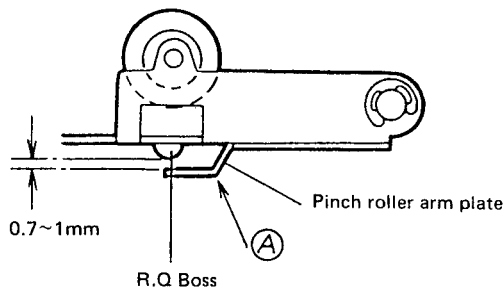

Fig. 28
- * Bend the portion A of the pinch roller arm to keep the clearance between the RQ boss and the pinch roller arm plate within 0.7~1mm. (Fig. 28)